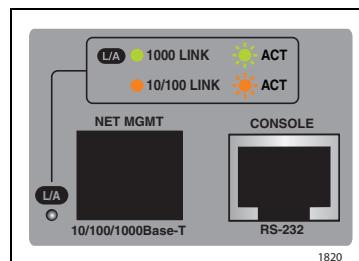

Figure 8 NET MGMT and CONSOLE Ports
The Network Management (NET MGMT) port is a standard Ethernet, Fast Ethernet, and Gigabit Ethernet port. See Figure 8. This port provides for remote management of the SwitchBlade x3112 Switch when you connect it to a device on your network. If it is available in the chassis, you can connect it directly to one of the copper ports on an Ethernet line card.
The Network Management (NET MGMT) port on the AT-SBx31CFC Fabric Control Card has one Status LED as displayed in Figure 8 and described in Table 5.
You use this port for local management with a console or a PC with a terminal emulation program. See Figure 8. This port does not require the AT-SBx31CFC Fabric Control Card to have an Internet Protocol (IP) address and is referred to as local or out-of-band management because it is not conducted over a network.